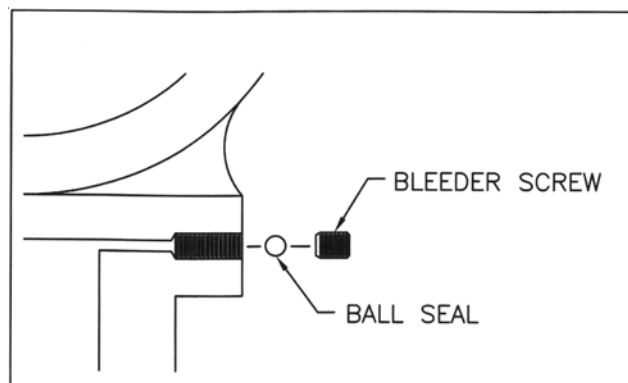

Figure 16: Ball Seal
**Do not remove the bleeder screw or the ball may be lost (see Figure 16).** When the air and foam stops escaping from the bleeder screw, and the fluid is clear, retighten the bleeder screw. Unhook the overhead hoist and lower the truck bed.